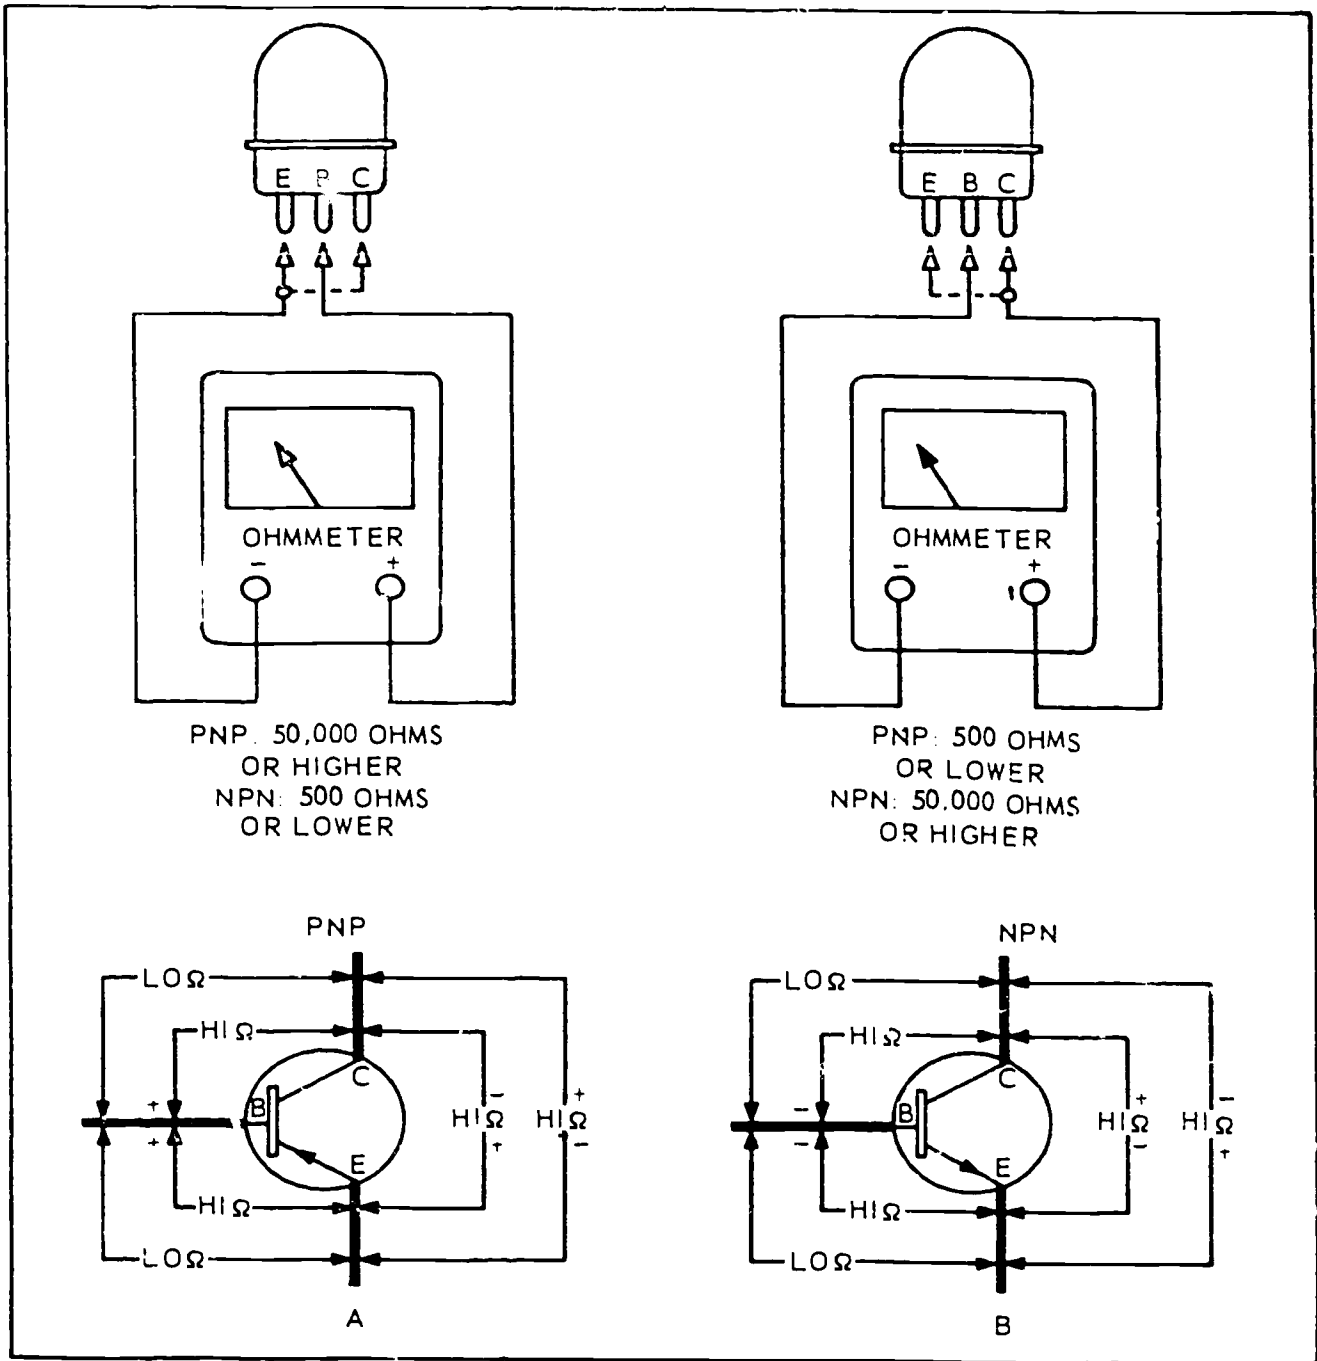

Figure 5-60. Transistor resistance testing.
Connections for these tests are shown in figure 5-60. With the positive ohmmeter lead connected to the base of a PNP transistor (figure 5-60,A), a high-resistance reading (50,000 ohms or higher) should be obtained between the base and the emitter, and between the base and the collector. With the negative ohmmeter lead connected to the base of a PNP transistor (figure 5-60,B), the resistance between the base and the emitter should be 500 ohms or less. If you make the same ohmmeter tests on an NPN transistor, the results will be reversed; that is, the high-resistance reading will be obtained with the negative ohmmeter lead connected to the base, and the low-resistance reading with the positive ohmmeter lead connected to the base. If you obtain open or shorted readings from the ohmmeter test, replace the integrated circuit or use another transistor on the array if there is an unused one.
The type of test depicted in figure 5-60 may also be used for determining the type of transistor, PNP or NPN, when its type is unknown. With the test connection as in figure 5-60,A, a high-resistance reading (50,000 ohms or
11. Suppose you have identified the circuit (an LC-type circuit) in figure 5-60,A. What troubleshooting procedure would you use if you had no IC tester to locate the problem?